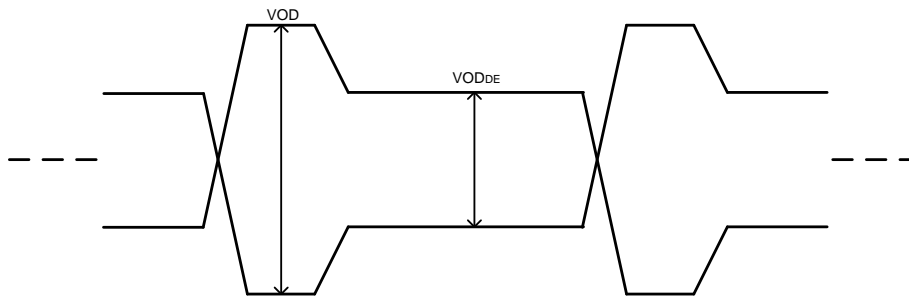

Figure 8. VOD and VOD_{DE} Levels
(1) The output drivers are capable of providing higher VOD and DEM levels (max settings are 7). For more VOD and de-emphasis levels, refer to 表 9.
(2) See Figure 8.